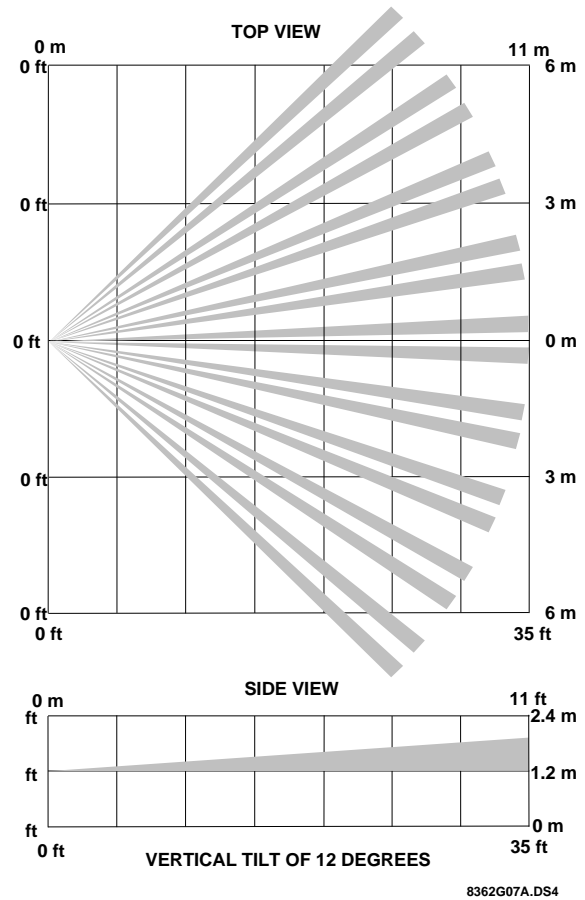

Figure 2. Top Graph Shows Both Standard & Animal Alley Lens Coverage Area. Lower Graph shows Side View Coverage Area Using the Animal Alley Lens
- For best coverage, mount the sensor from 5 to 8 feet high in the corner of the area you want to protect. See the Animal Alley lens guidelines for mounting the Animal Alley lens. Higher mounting provides better range (up to 35 feet), and lower mounting provides better protection close to the motion sensor (see Figures 2 and 3).